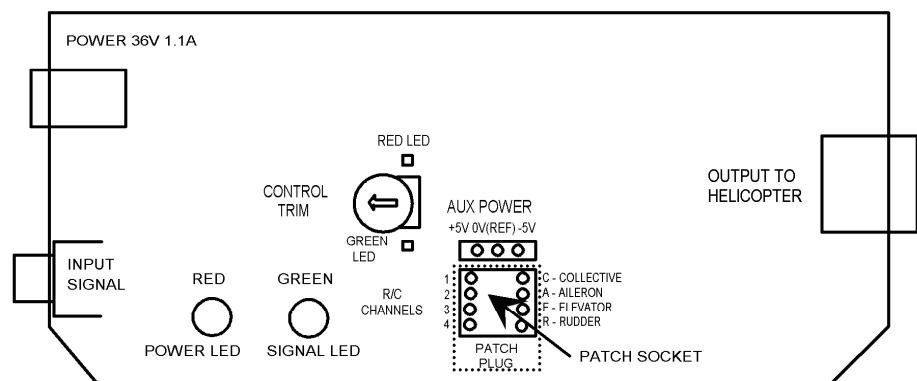

Fig. 6-1
To gain access to the Channel Patch Socket, it is necessary to open the ECP. Please refer to section 14-M for instructions on how to do this. Fig. 6-1 shows the location of the Patch Socket.
The Accessories Pack contains four short lengths of black wire, which will be used to connect the Patch Socket terminals in the required combination for correct operation. They will be used to link the transmitter channel terminals, which are in a row on the left side of the Patch Socket (Fig 6-1), to the flight control function terminals, which are on the right side of the Patch Socket. The wires can be crossed over one another, so that any channel can be connected to any flight control function.
To help determine which channel to assign to each flight control function, there are two small indicator LEDs, one located on each side of the Control Trim Adjuster (Fig 6-1). These LEDs are connected to the Rudder (R) terminal, and light up to indicate when the rudder control is moved. When the rudder is driven to the left, the red LED will light. When the rudder is driven to the right, the green LED will light.
The trim control is located close to the Channel Patch Socket (Fig 6-1). Next to it on the circuit board are two small indicator LEDs, one of which will probably be lit. Before setting the control, ensure that all the transmitter joysticks and trim adjusters are centred, including the collective control, which does not self-centre. Now, using a small screwdriver, slowly turn the ECP trim control in the direction of the indicator light that is lit. While turning the control, at some point the light will go out. The other light will come on if the control is turned further still. At the correct setting, both lights will be off. (If there is no resonance from the control, check that the transmitter is switched on and properly connected).